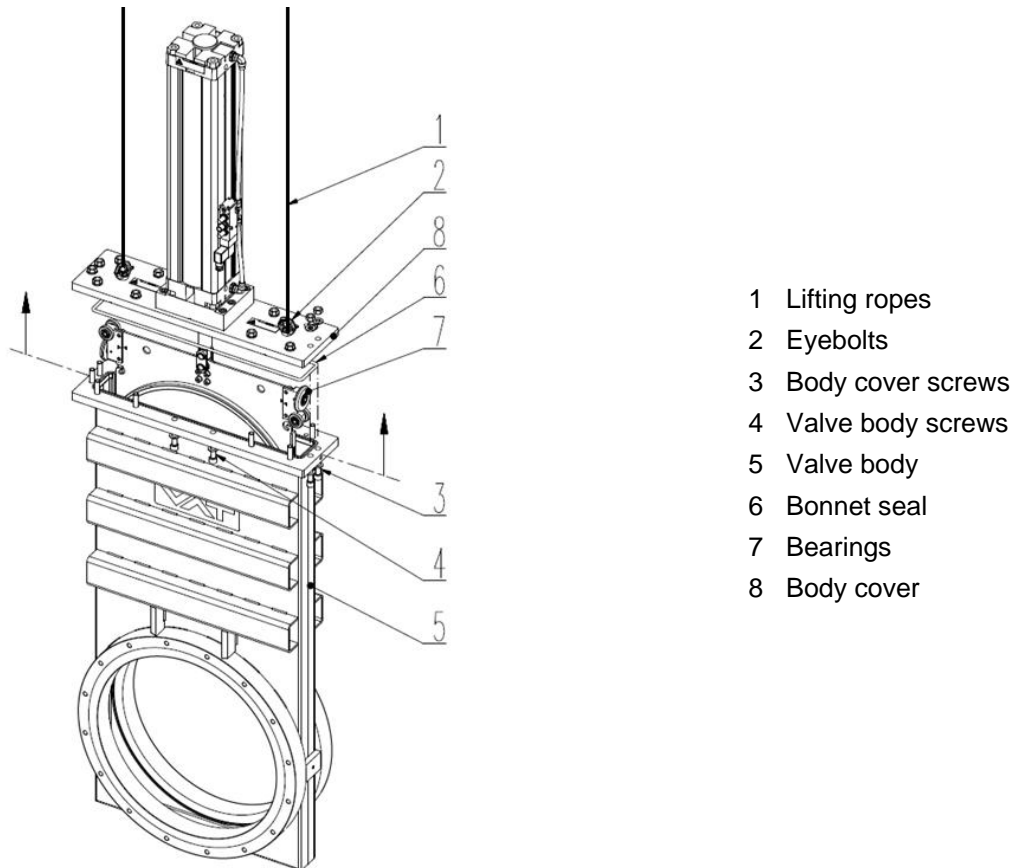

Figure 6-1
4. Remove the screws (3, 4) from the body cover (8) in crosswise order; see «Figure 6-1» on page 16.